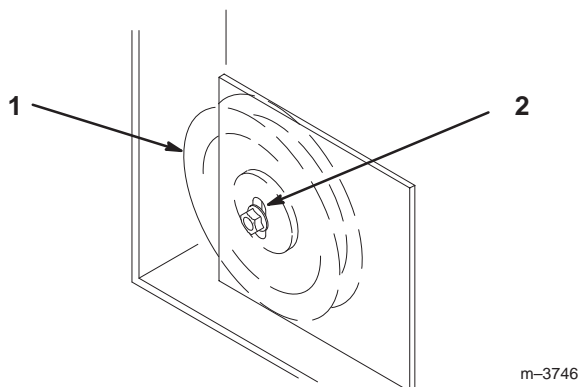

Figure 70
9. If adjustment is required, loosen the fixed idler on right support plate and move up or down in adjustment slot (Fig. 70). To relieve belt tension lift up on spring loaded idler.